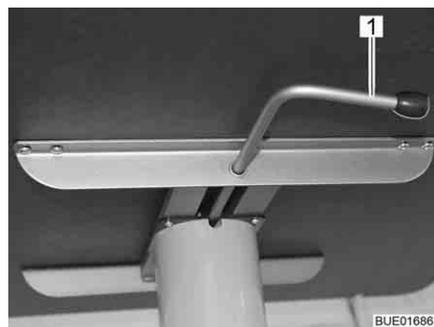
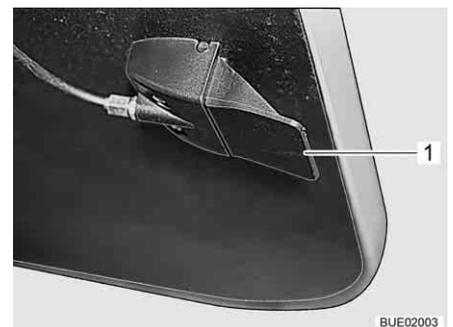

Fig. 76 Lift-off table release
Fig. 77 Lift-off table release (alternative)
- Swivel the catch lever (Fig. 76,1) to the left or press the release lever (Fig. 77,1). The lock of the lifting mechanism is open.
- Swivel the catch lever (Fig. 76,1) to the right (Fig. 76) or release the release lever (Fig. 77,1). The lifting mechanism is locked.
- Swivel the catch lever (Fig. 76,1) to the left. The lock of the lifting mechanism is open. The table top moves upwards to the limit stop.
- Swivel the catch lever to the right (Fig. 76). The lifting mechanism is locked.